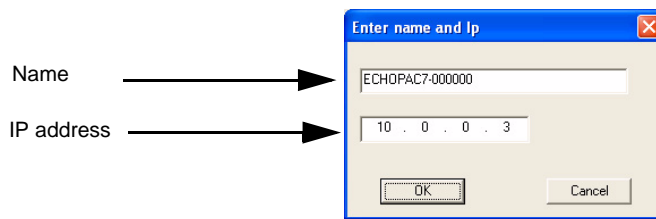

Figure 3-123 Edit Name and/or IP address
c.) Edit the name and/or the IP address of the server, see Figure 3-123.